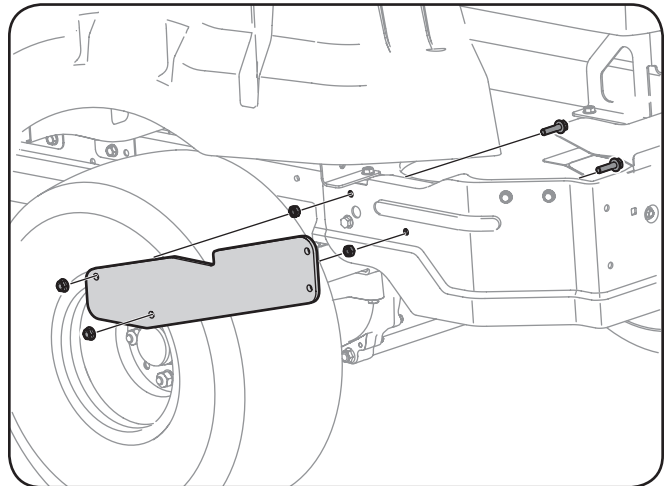

Figure 4-2
**Note:** The hex screws can be fed outward through the frame first, as shown in Figure 4-2, or inward through the bagger support bracket first. This option is based on preference.
3. Install the bagger support frame onto the hex screws installed in Step 2, and secure with a 712-3004A flange lock nut from the same hardware pack. See Figure 4-2.